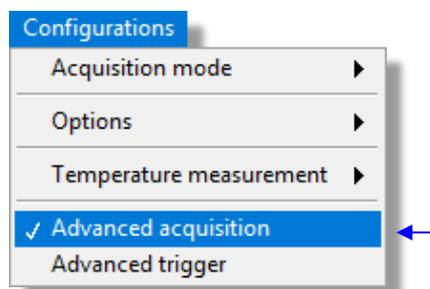

Figure 34 - Menu to select the advanced acquisition mode.
*Step 03* – In the “Configurations” menu (Fig. 34), select the “Advanced acquisition”.